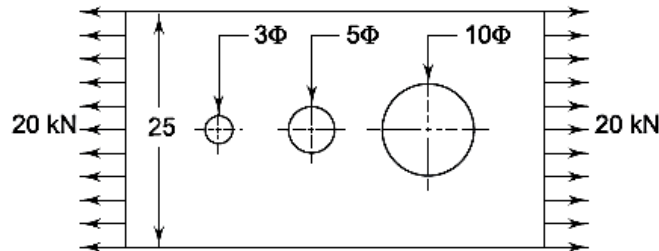

Figure 6.1
1. A rectangular plate, 15 mm thick, made of a brittle material is shown in Fig 6.1. Calculate the stresses at each of three holes of 3, 5 and 10 mm diameter.